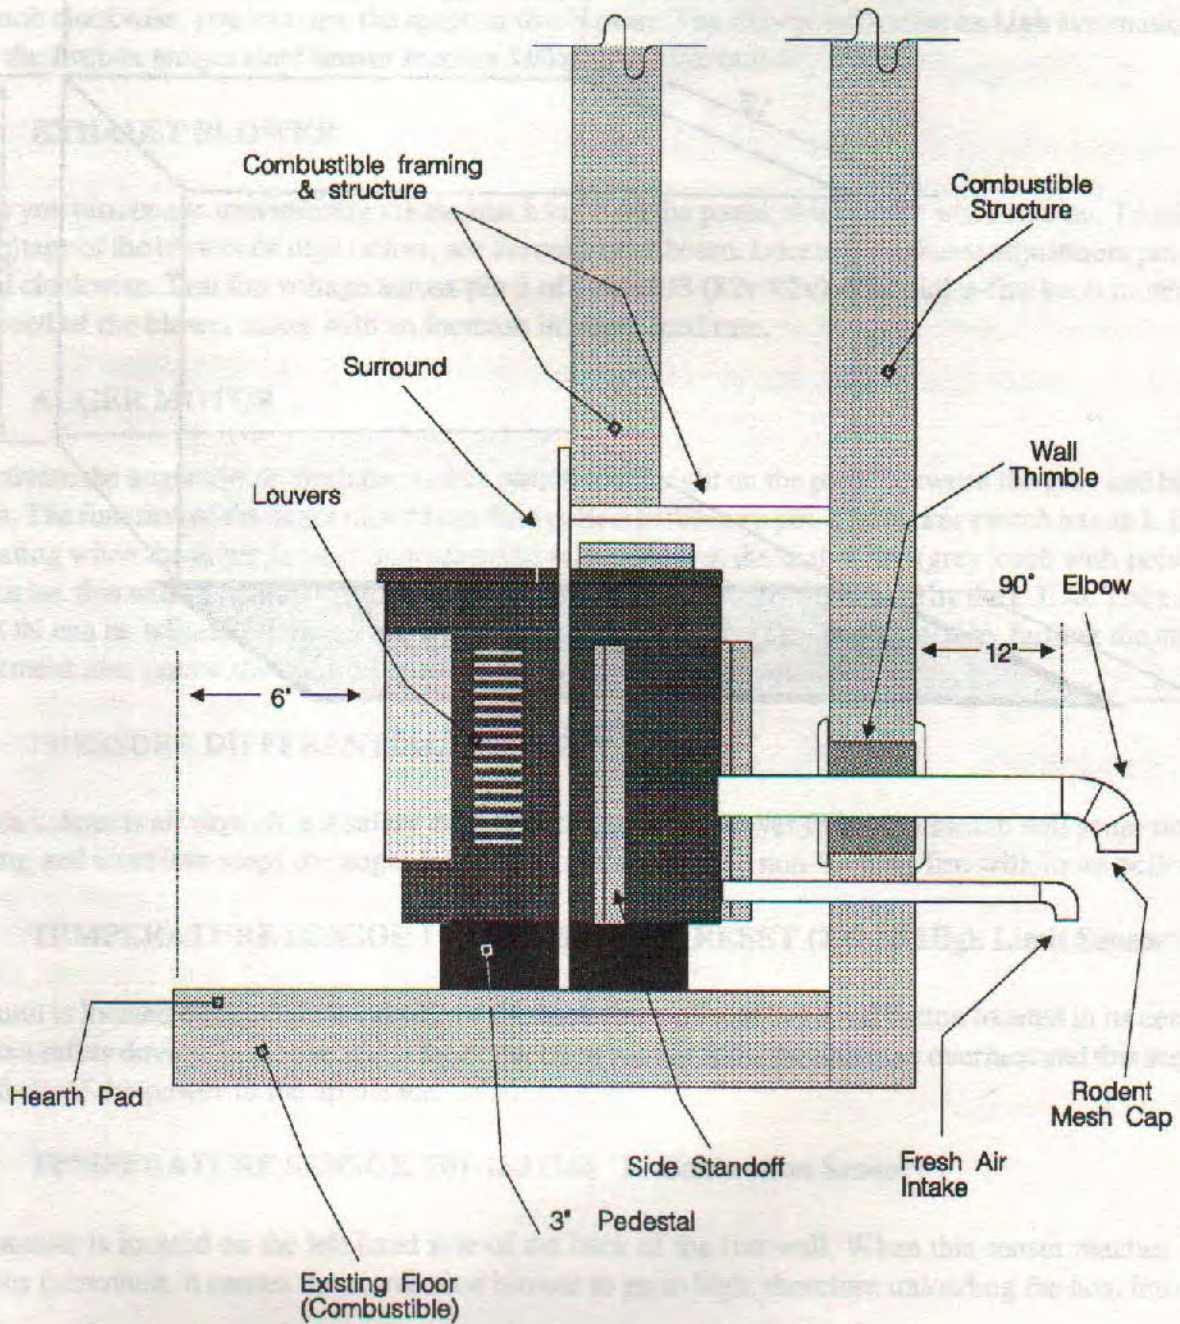

Fig. 14
1. Install the hearth pad as required. See figure 14.